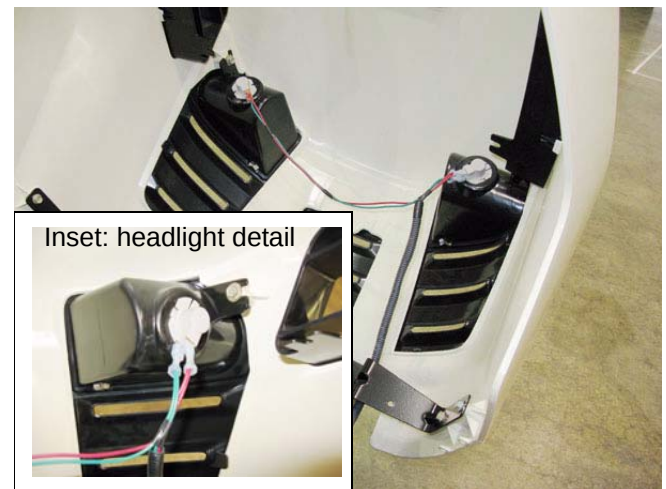

Figure 4.3
3. Disconnect the headlight wires. See Figure 4.3.